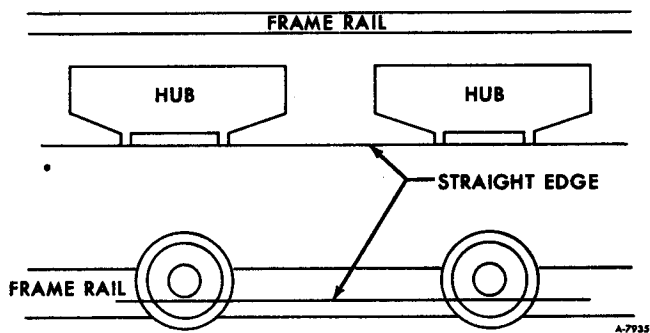

Figure 21—Measuring for Toe at Rear Suspension
3. Place straight edge across the face of the hubs as shown in figure 21.
4. The straight edge should lie flat on each hub as shown in figure 21. If the straight edge does not visibly rest on both points of each hub, a bent control arm will be evident and it should be replaced.